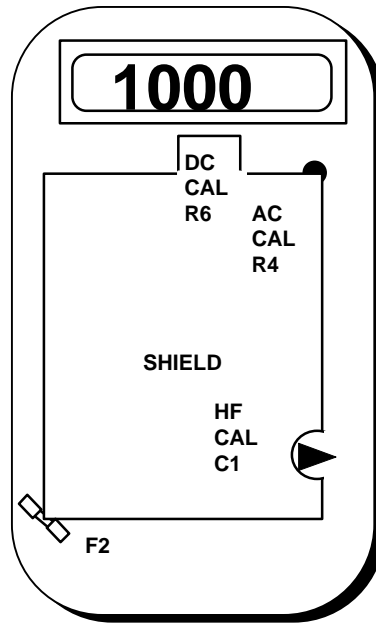

Figure 1. Adjustment locations.
(4) Set calibrator output to minimum and disconnect equipment setup.
b. Adjustment. Set calibrator output for 190.0 mV and adjust **DC CAL R6** (fig. 1) until TI indicates 190.0 (R).
- (1) Set calibrator for an output amplitude of 190 mV at an output frequency of 45 Hz and adjust **AC CAL R4** (fig. 1) for a TI indication of 190.0 (R).
- (2) Set calibrator for an output amplitude of 1.9 V at an output frequency of 5 kHz and adjust **HF CAL C1** (fig. 1) for a TI indication of 1.900 (R).